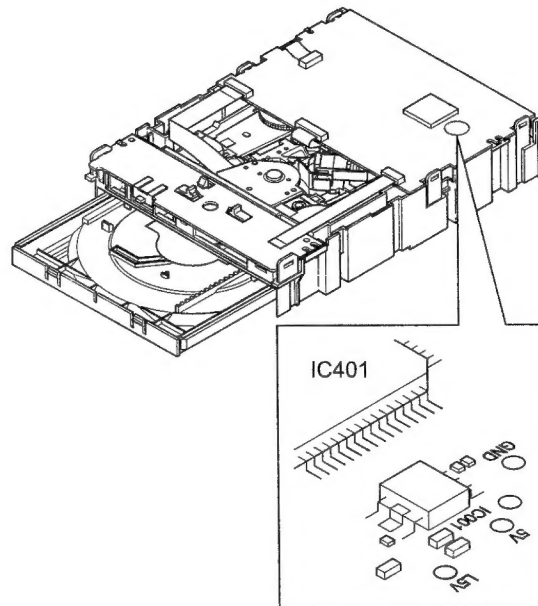

Figure 2. Laser voltage test points
9.5 Measure and record the voltage at the point 5V and L5V. Be sure to use the GND pad near the 5V and L5V points. See Figure 2.